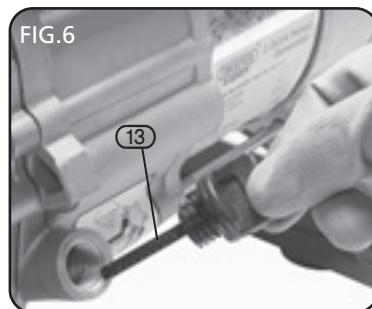

FIG.6
2. Remove the oil filter cap (13) by rotating the cap anti-clockwise and inspect to see the oil level (Fig.6).